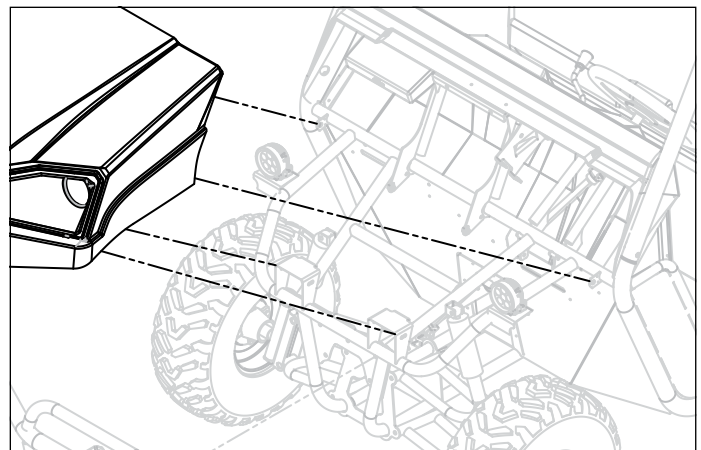

figure 4.14 (hood removal)
1. Using $\frac{1}{2}$ " wrenches, remove the (2) front hood fasteners and the (2) rear fasteners as shown in Fig 4.14.